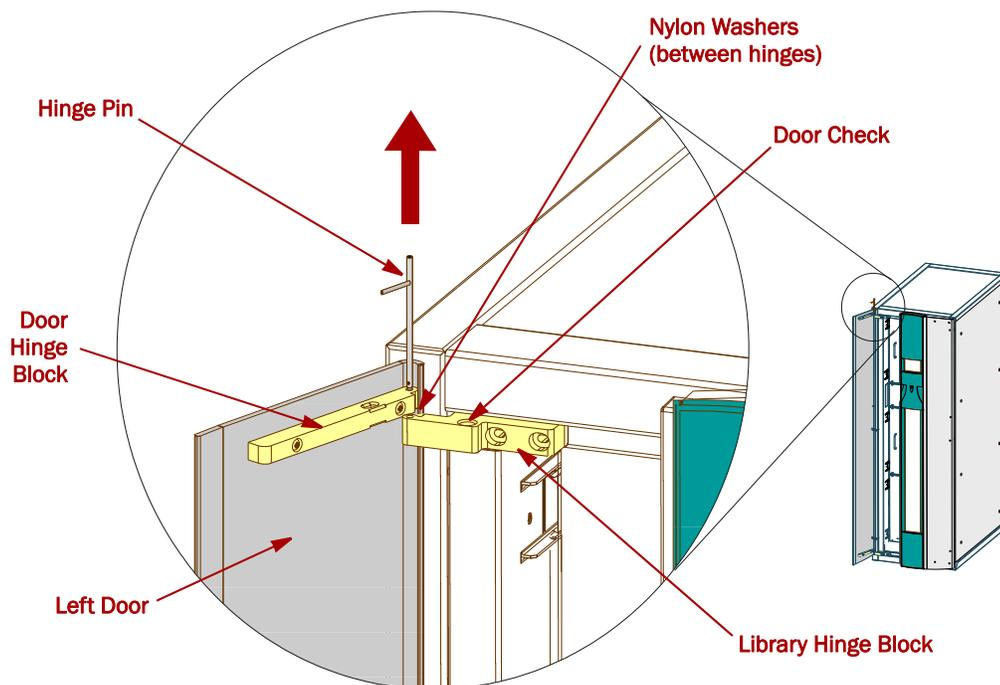

Figure B-2: Detaching the Doors
1. Remove the left front door (Figure B-2).